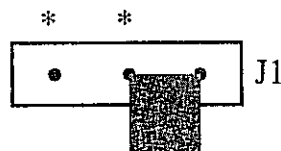

Figure 9: disconnect the circuit shorter
- b. When setting or calibrating is finished, you should disconnect the circuit shorter as diagrammed in Figure 9: